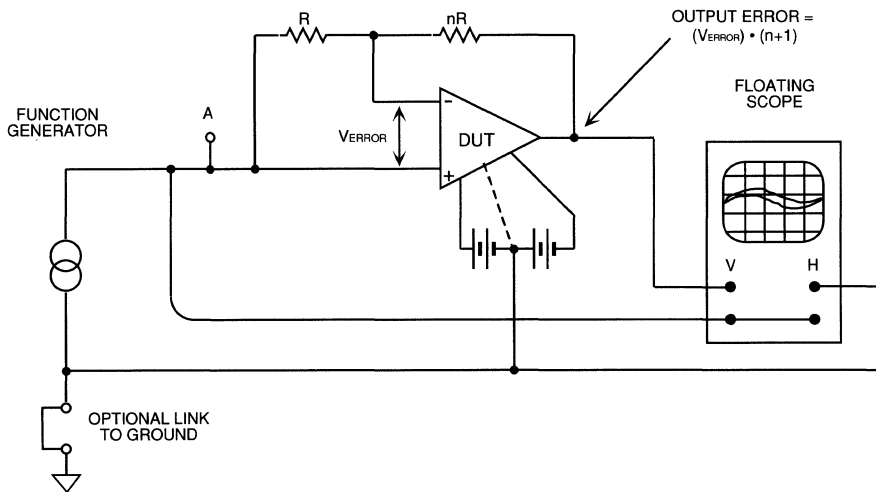
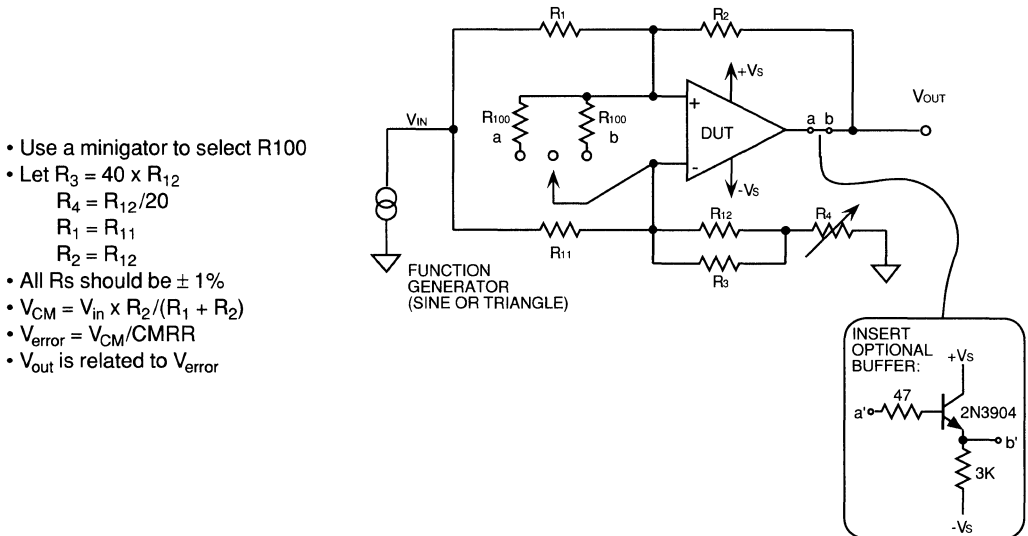

Figure 8.3. Is this a CMRR test? No, because $V_{\text{error}} = V_{\text{cm}}/\text{CMRR} + V_{\text{out}}/A_V$.
Figure 8.7. Here's how to evaluate CMRR with confidence and precision, both AC and DC.
The first thing I always tell people is how *not* to measure CMRR. In Figure 8.3, if you drive a sine wave or triangle wave into point A, it seems like the output error, as seen by a floating scope, will be $(N+1)$ times [V_{CM} divided by the CMRR]. But that's not quite true: you will see $(N+1)$ times [the CM Error *plus* the Gain Error]. So, at moderate frequencies where the gain is rolling off and the CMRR is still high, you will see mostly the gain error, and your curve of CMRR vs. frequency will look just as bad as the Bode plot. That is because if you used the circuit of Figure 8.3, that's just what you will be seeing! There are still a few op-amp data sheets where the CMRR curve is stated to be the same as the Bode plot. The National LF400 and LF401 are two examples; next year we will correct those curves to show that the CMRR is actually much higher than the gain at 100 or 1000 Hz. National is *not*, by the way, the only company to have this kind of absurd error in some of their data sheets. . . .
Specifically, I ran an LF356 in the circuit of Fig. 8.3, and I got an error of 4 mV p-p at 1 kHz—a big fat quadrature error, 90 degrees out of phase with the output—see the upper trace in Figure 8.6.
Figure 8.6. Trace (A) shows the “CMRR” error taken using the circuit of Figure 8.3. But it’s not the CMRR error, it’s really the gain error you are looking at, 4 mV p-p at 1 kHz. Trace (B) shows the actual common-mode error—about 1/20 the size of the gain error—measured using the circuit of Figure 8.7.
Figure 8.7 is a darned fine circuit, even if I did invent it myself about 22 years ago. It has limitations, but it's the best circuit I've seen. Let's choose $R_1 = R_{11} = 1\text{ k}$, $R_2 = R_{12} = 10\text{ k}$, and $R_3 = 200\text{ k}$ and $R_4 = \text{a } 500\ \Omega \text{ pot, single-turn carbon or similar}$. In this case, the noise gain is defined as $1 + [R_f/R_{in}]$, or about 11. See pages 100–101 for discussion of noise gain. Let's put a $\pm 11\text{-V}$ sine wave into the signal input so the CM voltage is about $\pm 10\text{ V}$. The output error signal will be about 11 times the error voltage plus some function of the mismatch of all those resistors. Okay, first connect the output to a scope in cross-plot (X-Y) mode and trim that pot until the output error is very small—until the slope is nominally flat. We don't know if the CMRR error is balanced out by the resistor error, or *what*; but, as it turns out, we don't care. Just observe that the output error, as viewed on a cross-plot scope, is quite small. Now connect in R100a, a nice low value such as $200\ \Omega$. If you sit down and compute it, the noise gain rises from 11 to 111. Namely, the noise gain *was* $(1 + R_2/R_1)$, and it then increases to $(1 + R_2/R_1) \text{ plus } (R_2 + R_{12})/R_{100}$. In this example, that is an increase of 100. So, you are now looking at a *change* of V_{out} equal to 100 times the input error voltage, (and that is V_{CM} divided by CMRR).